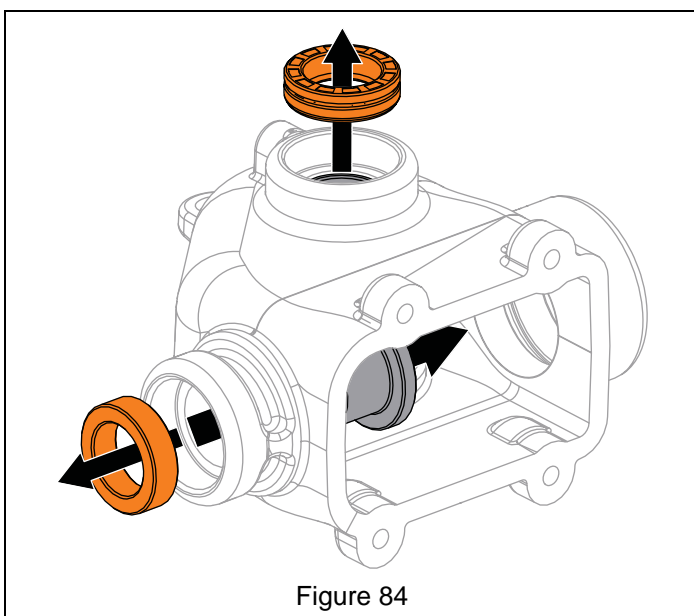

Figure 84
14. Remove seals and flange bushings from gearcase. See Figure 84.